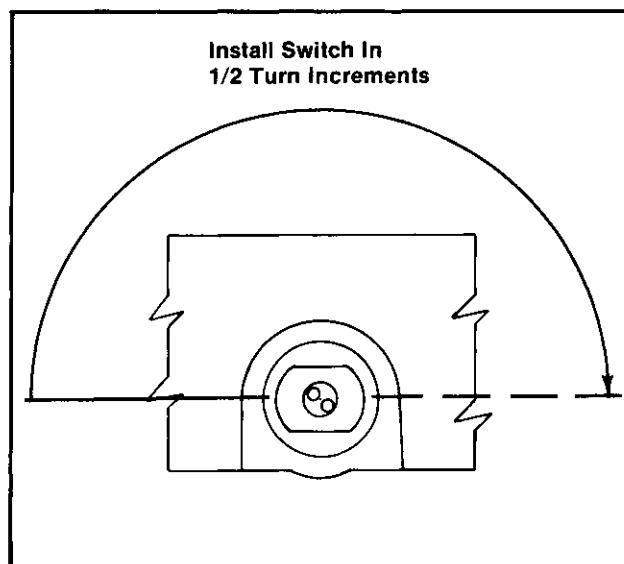

Figure 8-30. Float Switch Installation.
7. Turn the switch clockwise in 1/2 TURN INCREMENTS using a smooth continuous action. Pause briefly between increments and keep the flat surface of switch in a horizontal position (parallel with base of oil pan.) Refer to Figure 8-30.